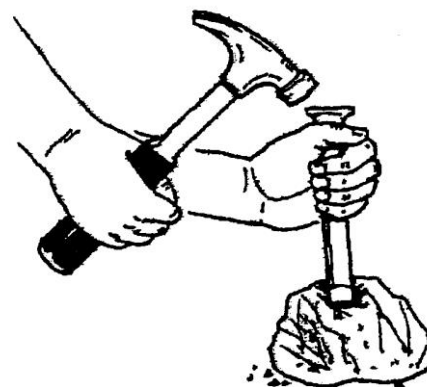

FIGURE 22. Testing for mineral cleavage
1. A test for cleavage is shown in FIGURE 22.